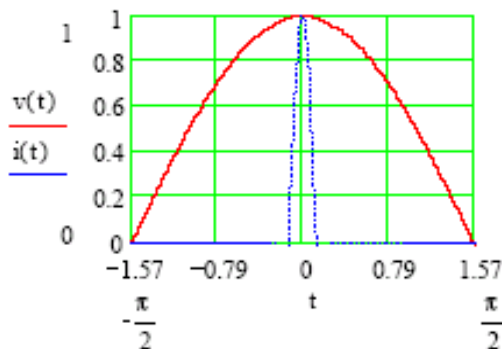
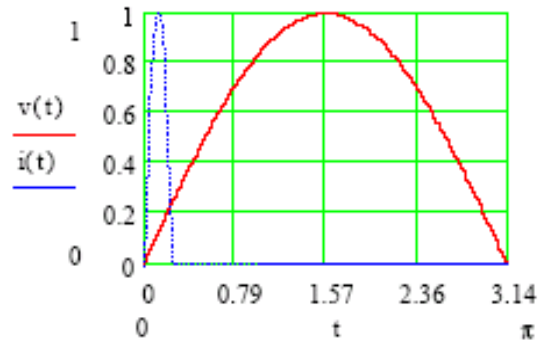

Figure 3-2 Maximum PF Passes Fixed CF
Figure 3-3 Minimum PF Passes Fixed CF
The relationship between PF and CF shown below is based on the voltage waveform of the input voltage as a sine wave. The estimation theory is based on the input voltage waveform and the load current waveform is a sinusoidal waveform or a modified sinusoidal waveform. When the maximum power factor of a fixed crest factor occurs at the maximum overlap of the input voltage waveform and the load current waveform, this means the voltage and current peaks occur simultaneously. When the minimum power factor occurs at the minimum overlap of the input voltage waveform and the load current waveform, this means the zero-crossing points of the voltage and current waveforms are the same. These two situations are shown in Figure 3-2 and Figure 3-3.
- Figure 3-2 explains setting the maximum PF in the CF state in CC Rectifier mode (see section 3.4.1) and CS Rectifier mode (see section 3.4.2).